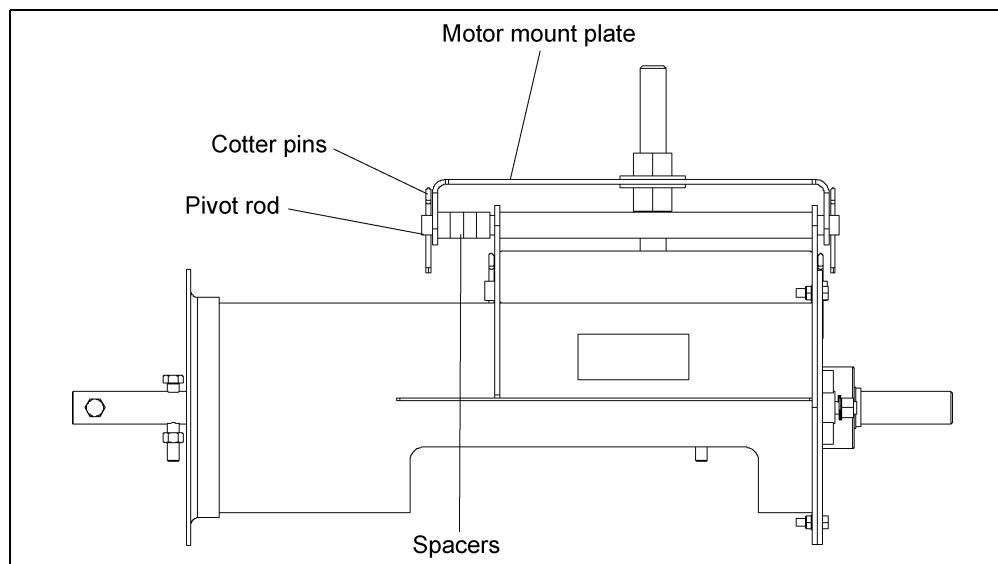

Figure 4L
- D. When the pivot rod begins to extend through the pivot tube install the spacers, BETWEEN the back plate and the inner face of the motor mount plate. *(See Figure 4L.)*